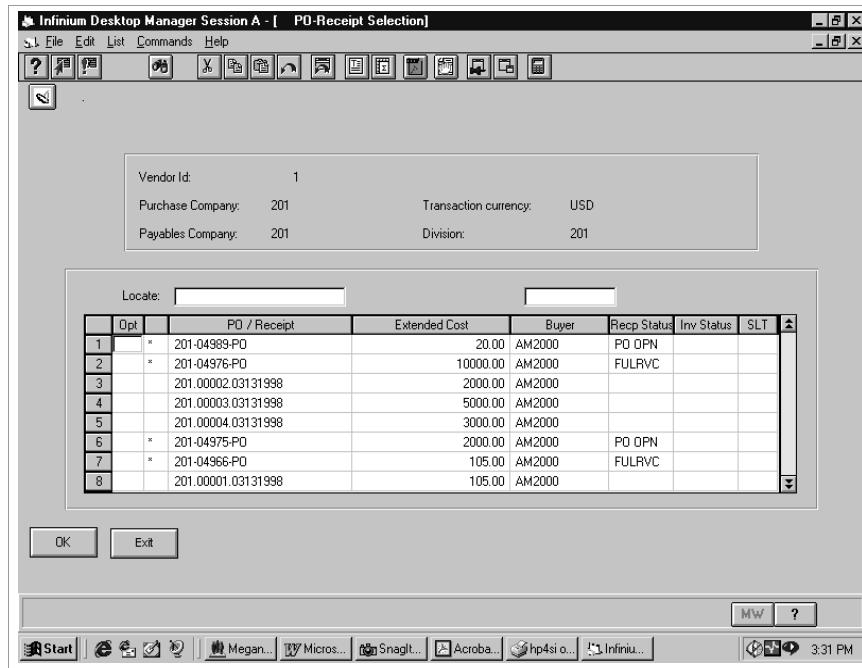

Figure 5-8: PO-Receipt Selection screen
You must complete creation of the invoice session as described earlier in this chapter before you can select or display purchase order information. You begin on the screen shown in Figure 5-8.
You can choose to display the purchase order information at the purchase order header level or at the purchase order detail level. After creating the invoice session as described earlier in this chapter, you begin the selection process at the PO-Receipt Selection screen shown in Figure 5-8.
- 3 Exit or cancel to return to the PO-Receipt Selection screen as shown in Figure 5-8.
- 1 On the PO-Receipt Selection screen shown in Figure 5-8, select a purchase order. The system displays an asterisk (\*) to the left of lines that represent purchase orders. You can select multiple purchase orders on this screen.
You can select at the purchase order header level or at the purchase order detail level. To select at the purchase order detail level, you must first create the invoice session as described earlier in this chapter. You begin the selection process at the PO-Receipt Selection screen shown in Figure 5-8.
4 Press Enter. The system saves your selections and returns you to the PO-Receipt Selection screen shown in Figure 5-8.